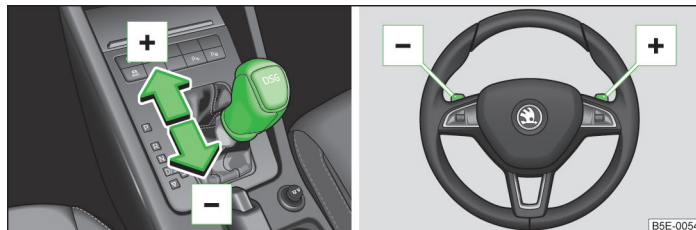

Fig. 122 Selector lever/multi-function steering wheel
➤ Push the selector lever forwards  » Fig. 122.
- Pull the right-hand paddle  » Fig. 122 briefly towards the steering wheel.
- Push the selector lever backwards  » Fig. 122.
- Pull the left-hand paddle  » Fig. 122 briefly towards the steering wheel.
- Pull one of the  paddles » Fig. 122 briefly towards the steering wheel.